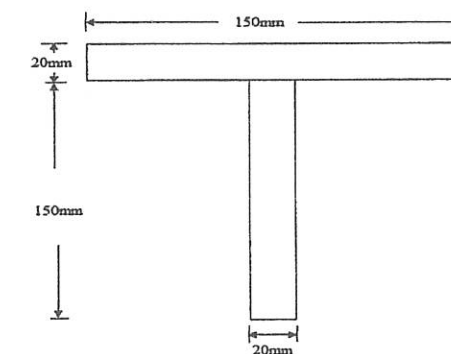

Figure B1 / Rajah B1
- (c) A simply supported beam with a symmetrical T-section as shown in **Figure B1** is subjected to a uniformly distributed load. The bending moment maximum, M_{max} is given as 40×10^3 kNmm.